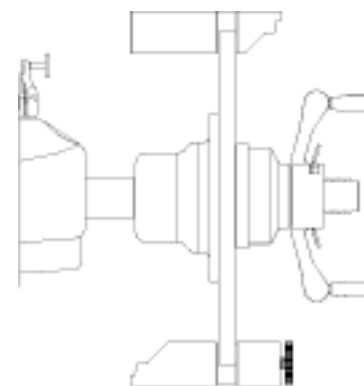

Figure 3-21
4. Remove the 100gr (3.50oz) weight from the left side and screw it into the right side of the Pruefrotor. (Figure 3-21)